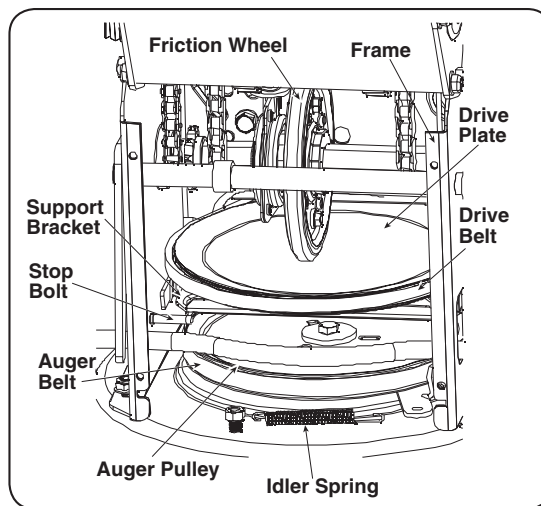

Figure 6-7
5. Unhook the idler spring from the hex bolt on the auger housing. See Figure 6-7.
5. Back out the stop bolt until the support bracket rests on the auger pulley. See Figure 6-7.
6. Slip the drive belt off the pulley and between friction wheel and drive plate. See Figure 6-7.